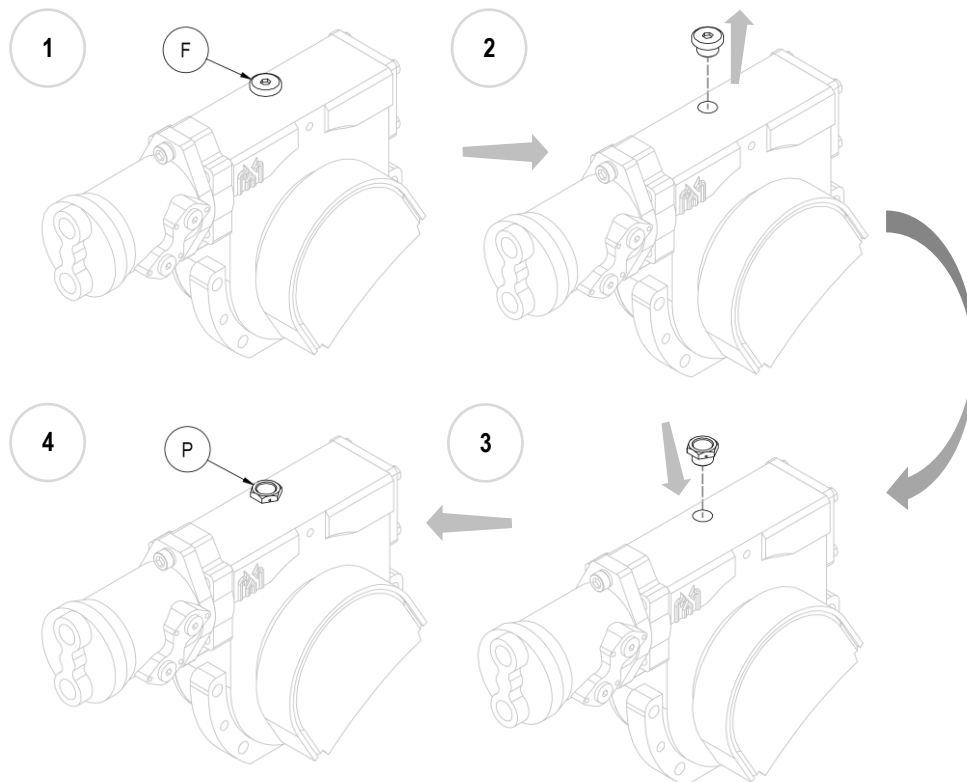

Figure 10
10. **N.B.** With the equipment mounted, replace the blind iron oil filler plug (F) with the plastic one supplied (P), which includes a breather (see *Figure 10*).